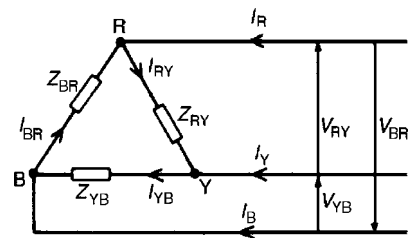
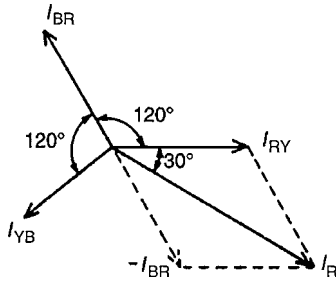

Figure 20.10
Figure 20.11
- A **delta (or mesh) connected load** is shown in Fig. 20.10 where the end of one load is connected to the start of the next load.
- From Fig. 20.10, it can be seen that the line voltages V_{RY} , V_{YB} and V_{BR} are the respective phase voltages, i.e. for a delta connection:
- Using Kirchhoff's current law in Fig. 20.10, $I_R = I_{RY} - I_{BR} = I_{RY} + (-I_{BR})$. From the phasor diagram shown in Fig. 20.11, by trigonometry or by measurement, $I_R = \sqrt{3} I_{RY}$, i.e. for a delta connection: